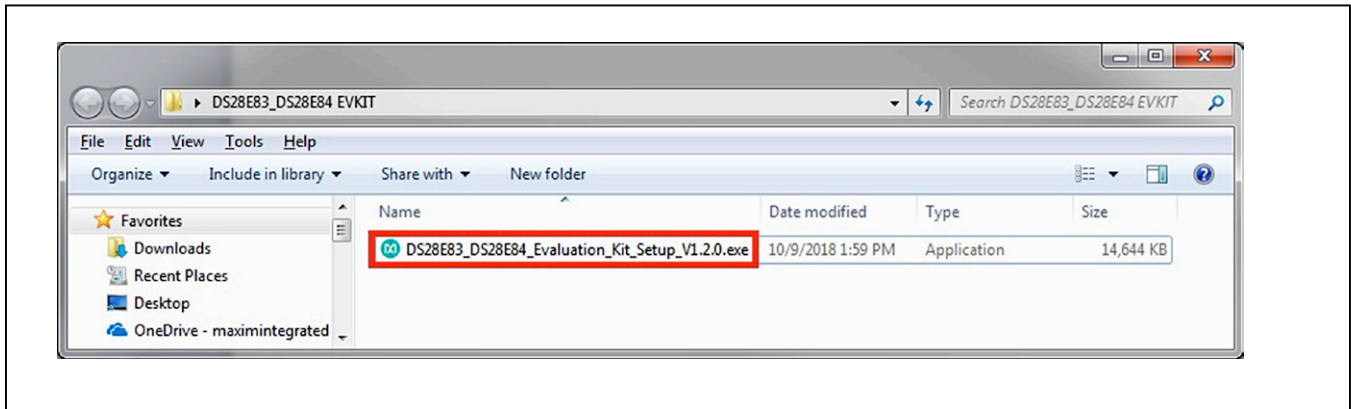

Figure 1. File Viewer
- 2) In a file viewer (Figure 1), double click on **DS28E83_DS28E84_EV_Kit_Software_Setup_V1.2.0.exe** to begin the installation.